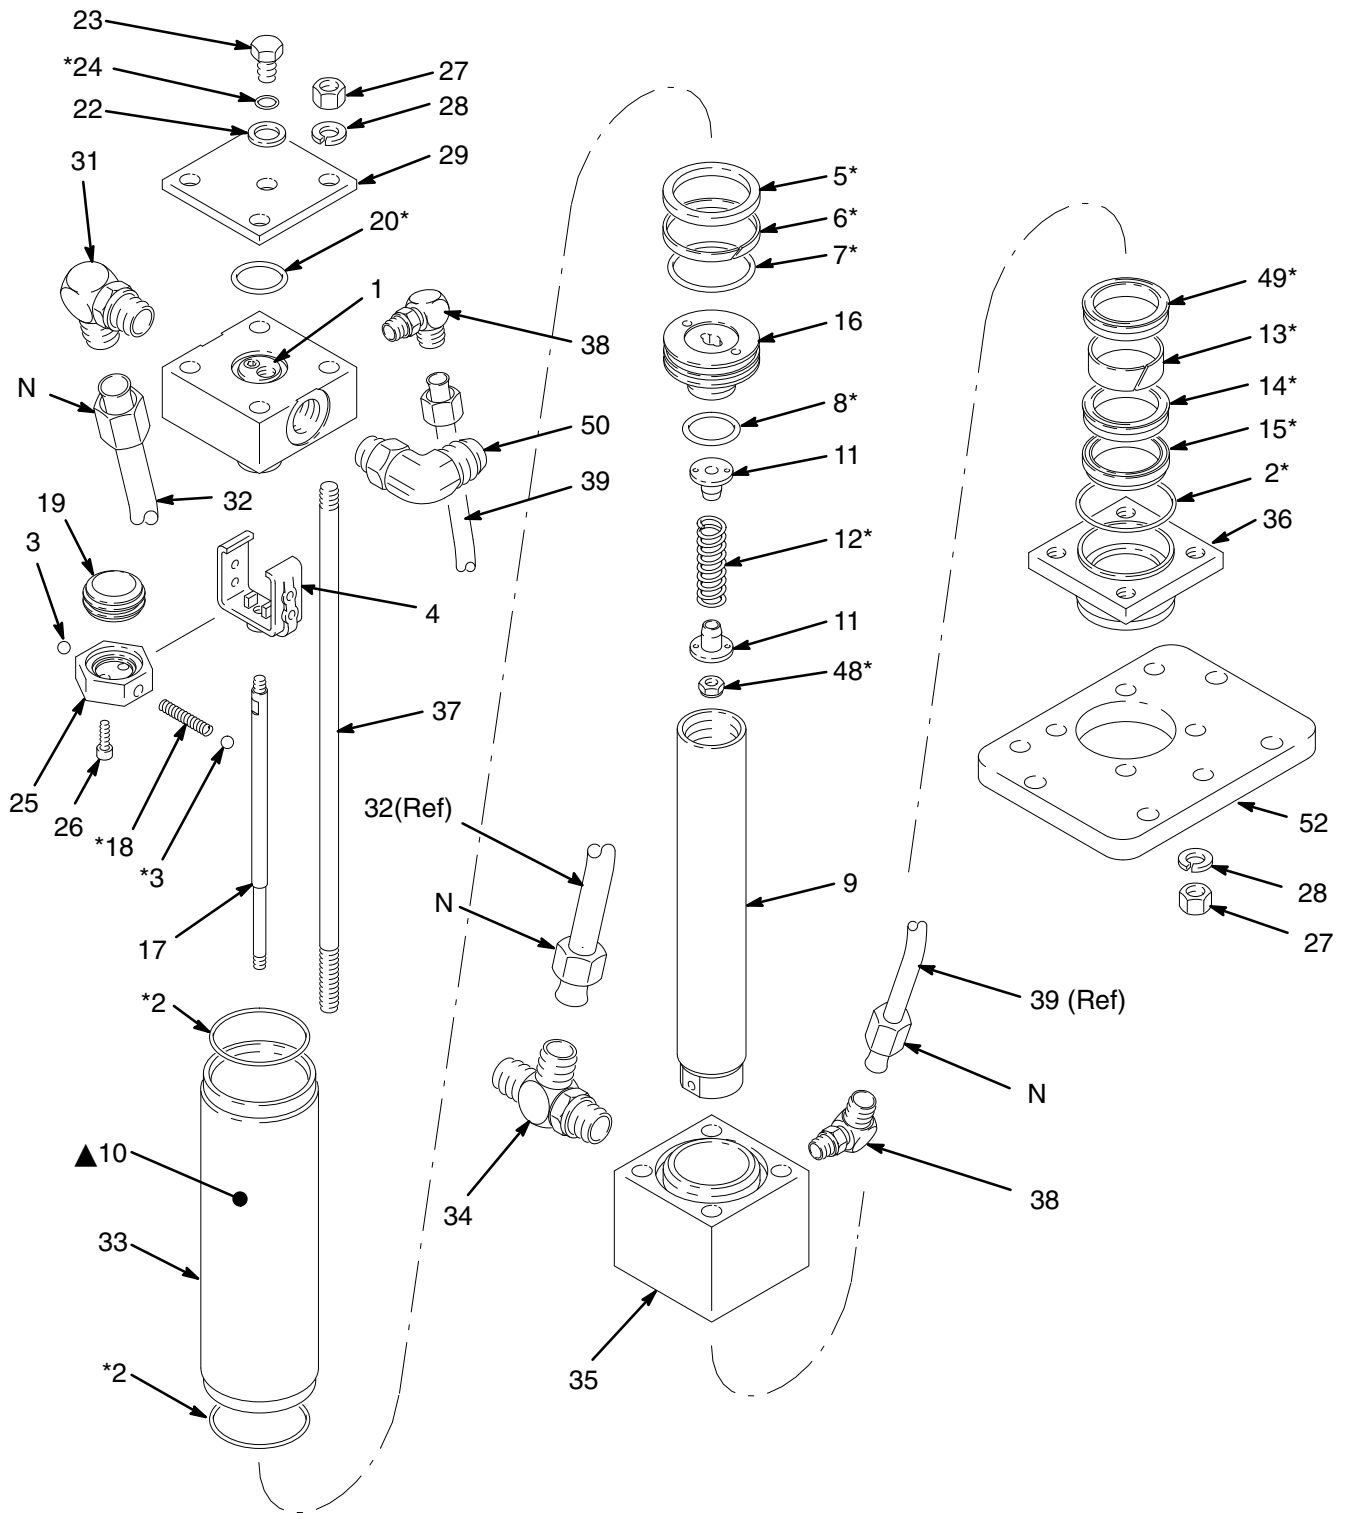

Fig. 1
2. Unthread the tie rods (37) from the retainer (36) and the tie plate, and pull them out through the top of the hydraulic motor. It will be necessary to remove the lower four nuts (27) and lockwashers (28).
3. Unscrew the four fluid tube nuts (N) and remove the tubes (32, 39). See Fig. 1. Allow excess oil to drain from the hydraulic motor, then plug the fluid fittings.
- b. Insert the spring (18\*) and one ball (3\*) into the valve stop (25). Tilt the valve stop and start guiding it into the tool, making sure the ball is sliding into the rounded slot in the tool.
- c. Place the second ball (3\*) at the other end of the spring (18\*) and push it in with your thumb while rotating the valve stop (25) until the spring is horizontal and the balls are in place. Continue holding this assembly together.
- d. Align the curved ends of the yoke with the valve sleeve groove, then press the assemblies firmly together. Make sure the balls snap into the upper detent holes (H) of the yoke (4), and the curved ends of the yoke engage the valve sleeve (19) groove. To remove the tool, slide it over the trip rod (17).
11. Place the bottom cylinder cap (35) in a vise. Install the o-ring (2\*) in the cap. Set the cylinder (33) on the bottom cap.
12. Install the o-ring (2\*) in the top valve spool (1). Make sure the hydraulic fittings (31, 34, and 38) are oriented as shown in Fig. 1, then slide the displacement rod (9) and piston (16) into the cylinder (33) until it seats in the top cap.